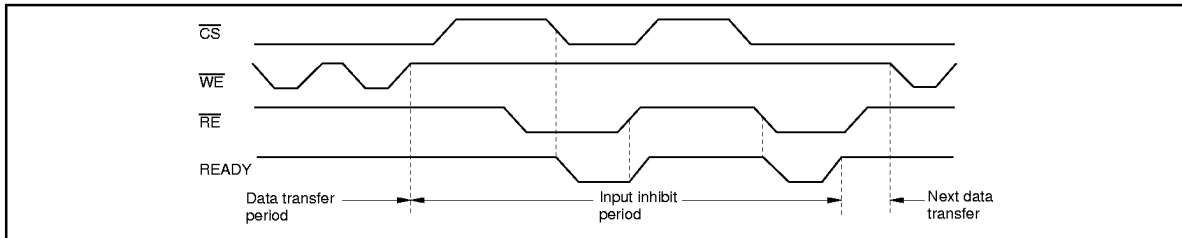

Figure 15 **READY** Output Timing (When It Is Made Available by \overline{CS} and \overline{RE})
b. READY is made available by \overline{CS} and \overline{RE} (Figure 15).